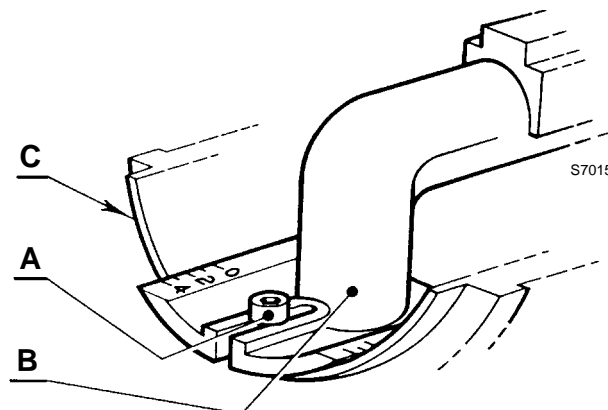

Fig. 12
- loosen the screw A (Fig. 12), move the elbow B so that the rear plate of the coupling (C) coincides with the set point;